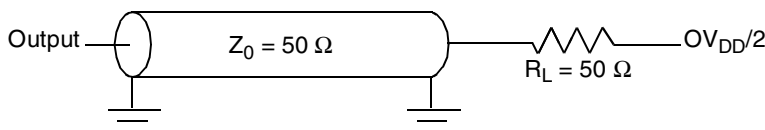
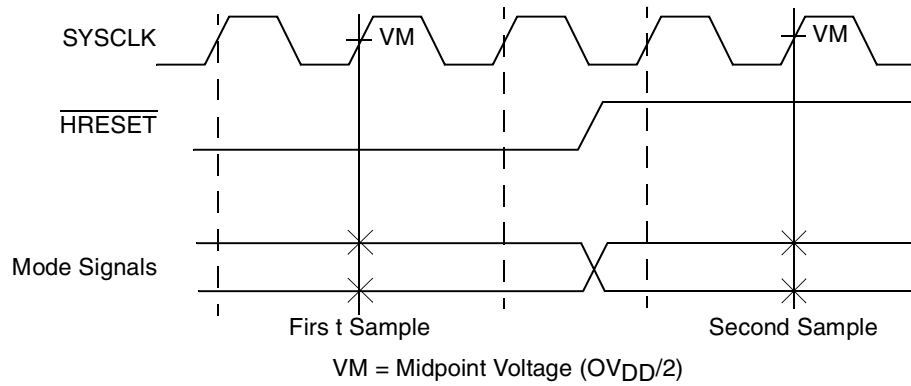
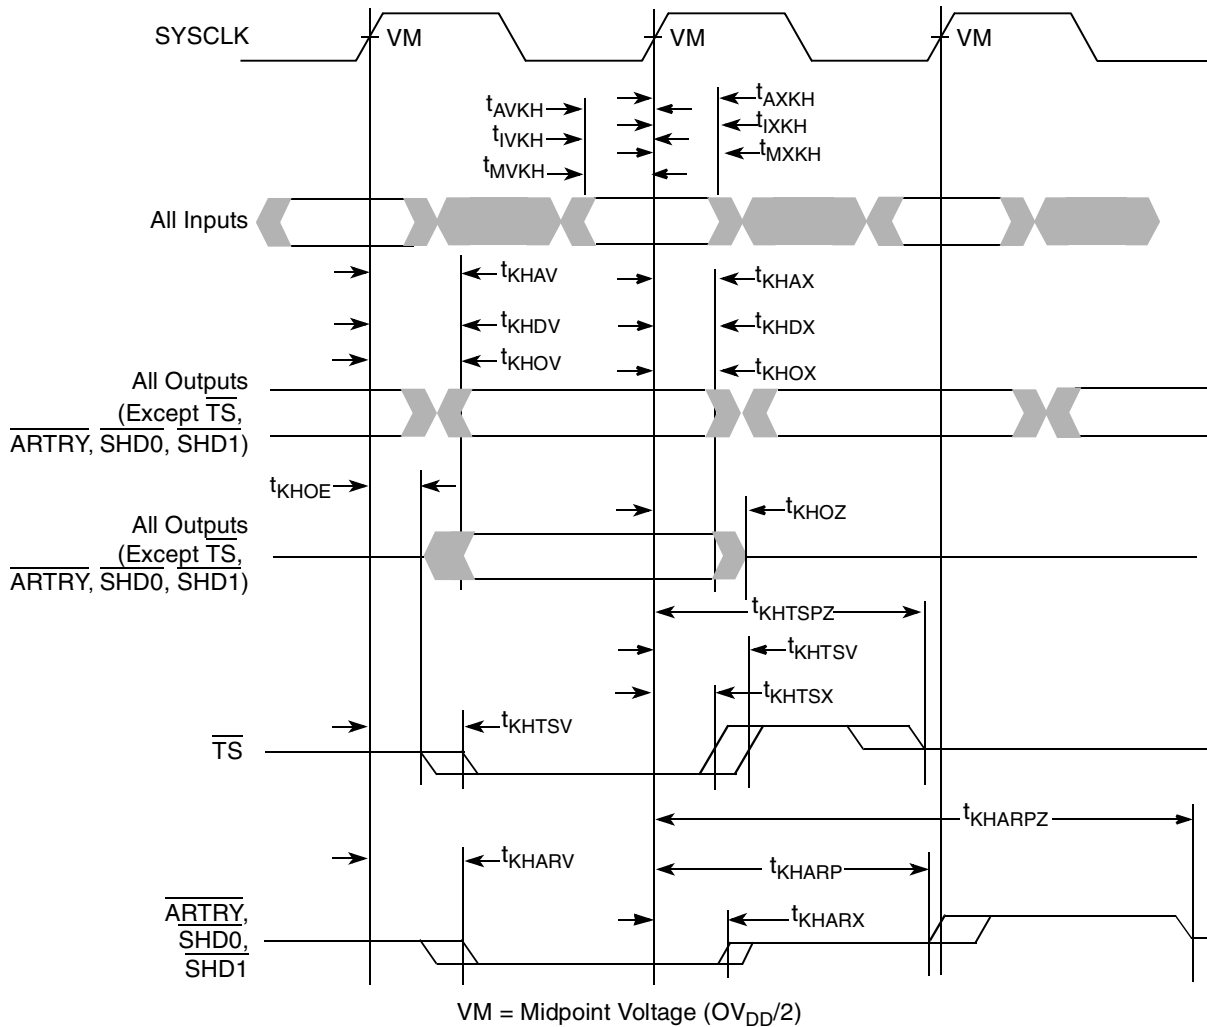

Figure 4. AC Test Load
Figure 5. Mode Input Timing Diagram
Figure 6. Input/Output Timing Diagram
Table 9 provides the processor bus AC timing specifications for the MPC7455 as defined in Figure 4 and Figure 5. Timing specifications for the L3 bus are provided in Section 5.2.3, “L3 Clock AC Specifications.”
- All input specifications are measured from the midpoint of the signal in question to the midpoint of the rising edge of the input SYSCLK. All output specifications are measured from the midpoint of the rising edge of SYSCLK to the midpoint of the signal in question. All output timings assume a purely resistive 50-Ω load (see Figure 4). Input and output timings are measured at the pin; time-of-flight delays must be added for trace lengths, vias, and connectors in the system.
- The symbology used for timing specifications herein follows the pattern of $t_{(\text{signal})(\text{state})(\text{reference})(\text{state})}$ for inputs and $t_{(\text{reference})(\text{state})(\text{signal})(\text{state})}$ for outputs. For example, $t_{\text{V_{KH}}}$ symbolizes the time input signals (I) reach the valid state (V) relative to the SYSCLK reference (K) going to the high (H) state or input setup time. And $t_{\text{KH_{OV}}}$ symbolizes the time from SYSCLK(K) going high (H) until outputs (O) are valid (V) or output valid time. Input hold time can be read as the time that the input signal (I) went invalid (X) with respect to the rising clock edge (KH) (note the position of the reference and its state for inputs) and output hold time can be read as the time from the rising edge (KH) until the output went invalid (OX).
- According to the bus protocol, $\overline{\text{TS}}$ is driven only by the currently active bus master. It is asserted low then precharged high before returning to high impedance as shown in Figure 6. The nominal precharge width for $\overline{\text{TS}}$ is $0.5 \times t_{\text{SYSCLK}}$, that is, less than the minimum t_{SYSCLK} period, to ensure that another master asserting $\overline{\text{TS}}$ on the following clock will not contend with the precharge. Output valid and output hold timing is tested for the signal asserted. Output valid time is tested for precharge. The high-impedance behavior is guaranteed by design.
- According to the bus protocol, $\overline{\text{ARTRY}}$ can be driven by multiple bus masters through the clock period immediately following $\overline{\text{AACK}}$. Bus contention is not an issue because any master asserting $\overline{\text{ARTRY}}$ will be driving it low. Any master asserting it low in the first clock following $\overline{\text{AACK}}$ will then go to high impedance for one clock before precharging it high during the second cycle after the assertion of $\overline{\text{AACK}}$. The nominal precharge width for $\overline{\text{ARTRY}}$ is $1.0 t_{\text{SYSCLK}}$; that is, it should be high impedance as shown in Figure 6 before the first opportunity for another master to assert $\overline{\text{ARTRY}}$. Output valid and output hold timing is tested for the signal asserted. The high-impedance behavior is guaranteed by design.
- $\text{BMODE}[0:1]$ and BVSEL are mode select inputs and are sampled before and after $\overline{\text{HRESET}}$ negation. These parameters represent the input setup and hold times for each sample. These values are guaranteed by design and not tested. These inputs must remain stable after the second sample. See Figure 5 for sample timing.
Figure 4 provides the AC test load for the MPC7455.
Figure 5 provides the mode select input timing diagram for the MPC7455.
Figure 6 provides the input/output timing diagram for the MPC7455.